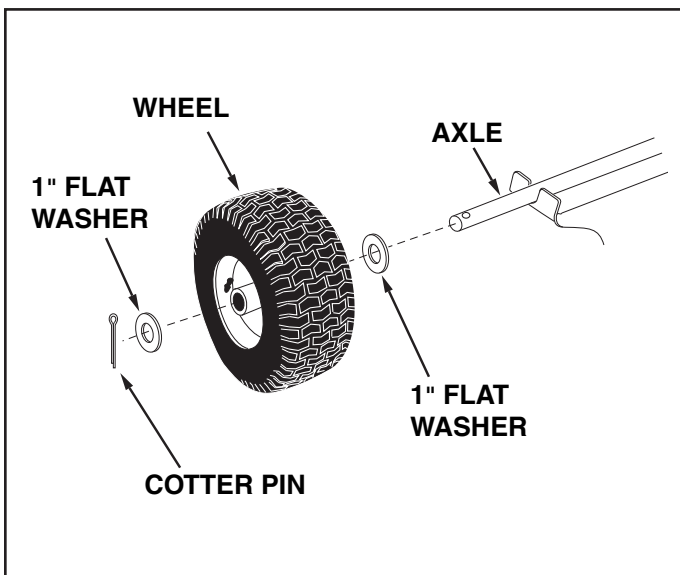

FIGURE 5
8. Assemble a 1" flat washer, a wheel (valve stem facing out) and another 1" flat washer onto the axle as shown in figure 5. Insert a cotter pin through the axle, spreading the ends. Repeat on other end of axle.